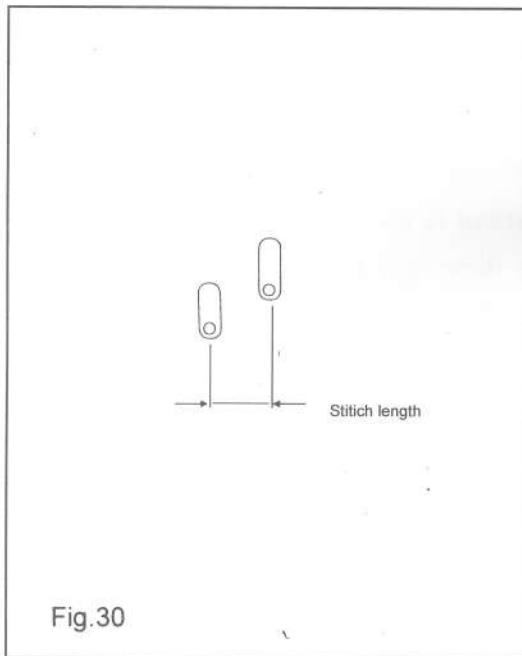

Fig.30
26. Replacement of throat plate: (Fig.30)
The standard size of the throat plate in parts book, which is stipulated by the manufactory, is $1/4$, equivalent to 6.4mm (Fig.30)